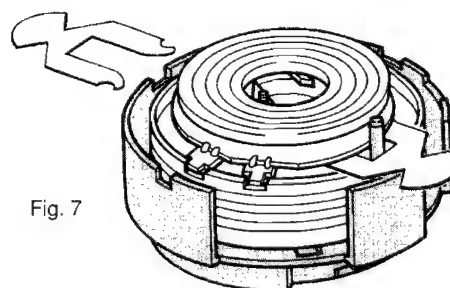

Fig. 7
- Insert the 2 Mylar foils (included with each head disc) in the head disc. (Fig. 7)